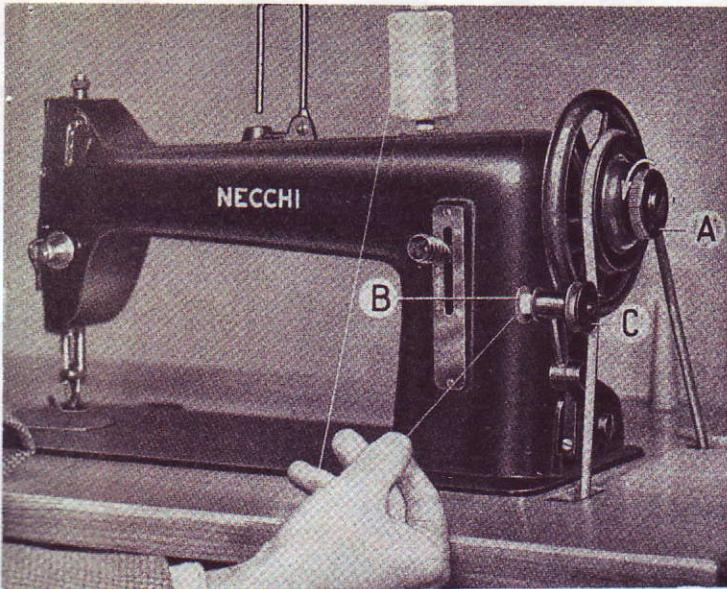

Fig. 6
1. Hold the balance yheel with one hand and disconnect it from the sewing mechanism by turning the knob **A** (Fig. 6) in the direction of the arrow.
4. Hold the thread as shown in Fig. 6 and drive the machine. Guide the thread by hand so that it is wound uniformly (in even layers) around the bobbin.